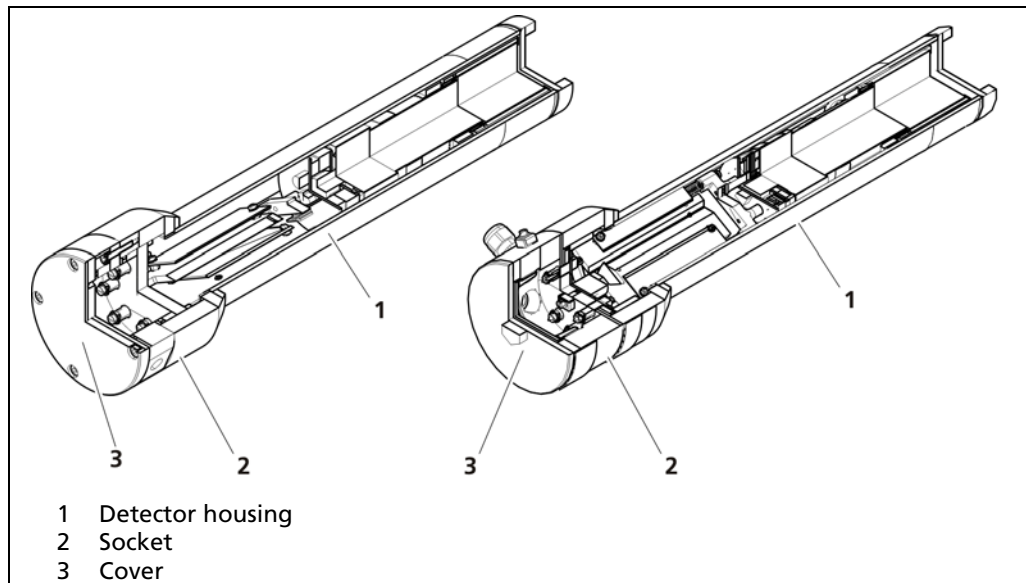

Fig. 6 Detector Housing with Socket and cover
- Do **not** disassemble the detector housing (Fig. 6, Pos. 1) from the socket (Fig. 6, Pos. 2) by opening the Torx screws in the terminal compartment.